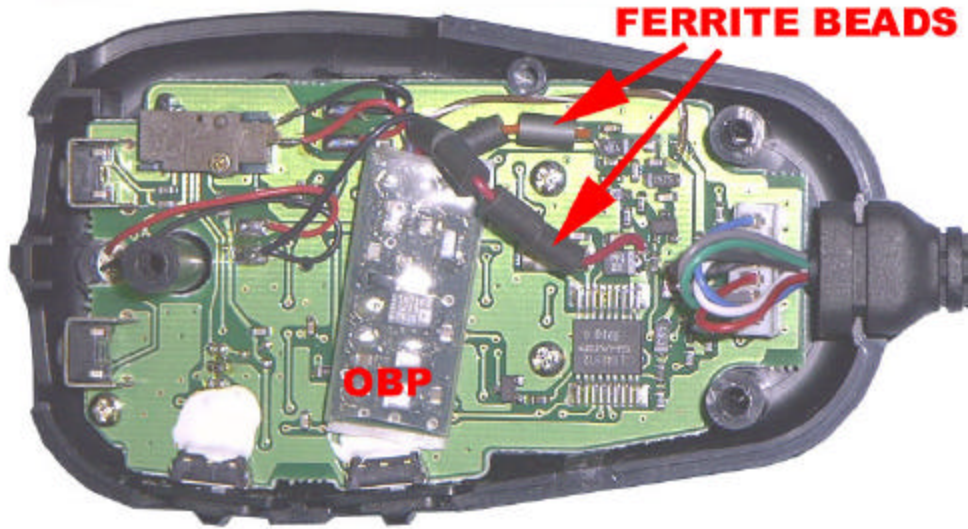

Figure 2.
- 3. Mount the One BIG Punch in the position shown in Fig. 2. This figure illustrates how the finished installation should appear prior to attachment of the rear cover.